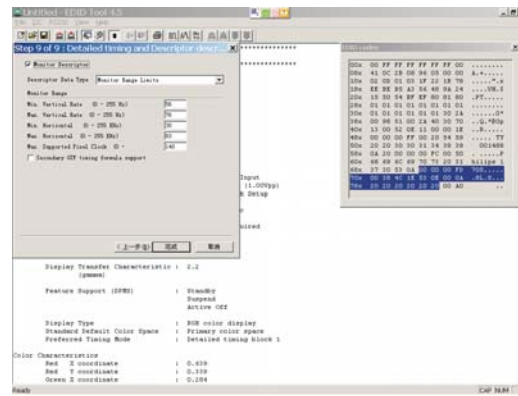

Fig. 18
8. Click Next, bring up Fig. 18. Then click finish to exit the step window